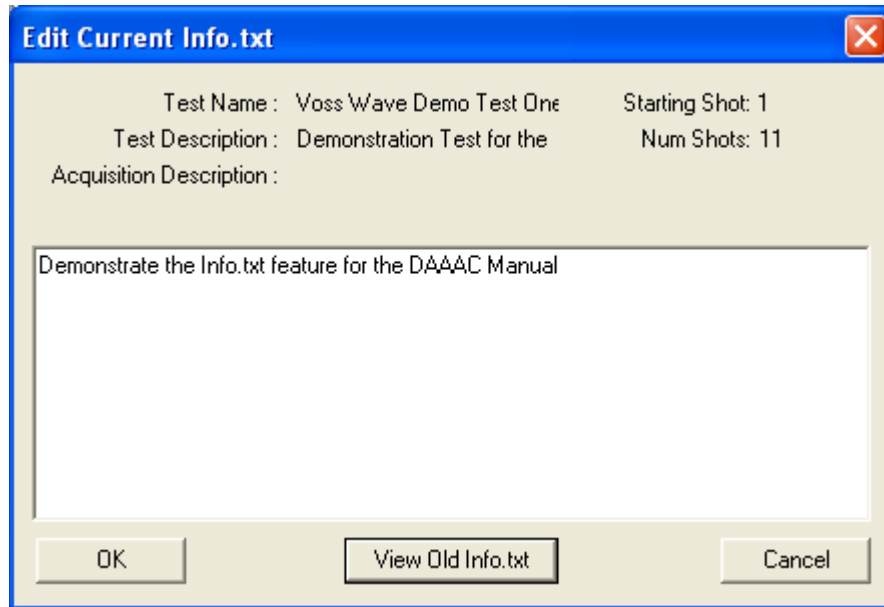
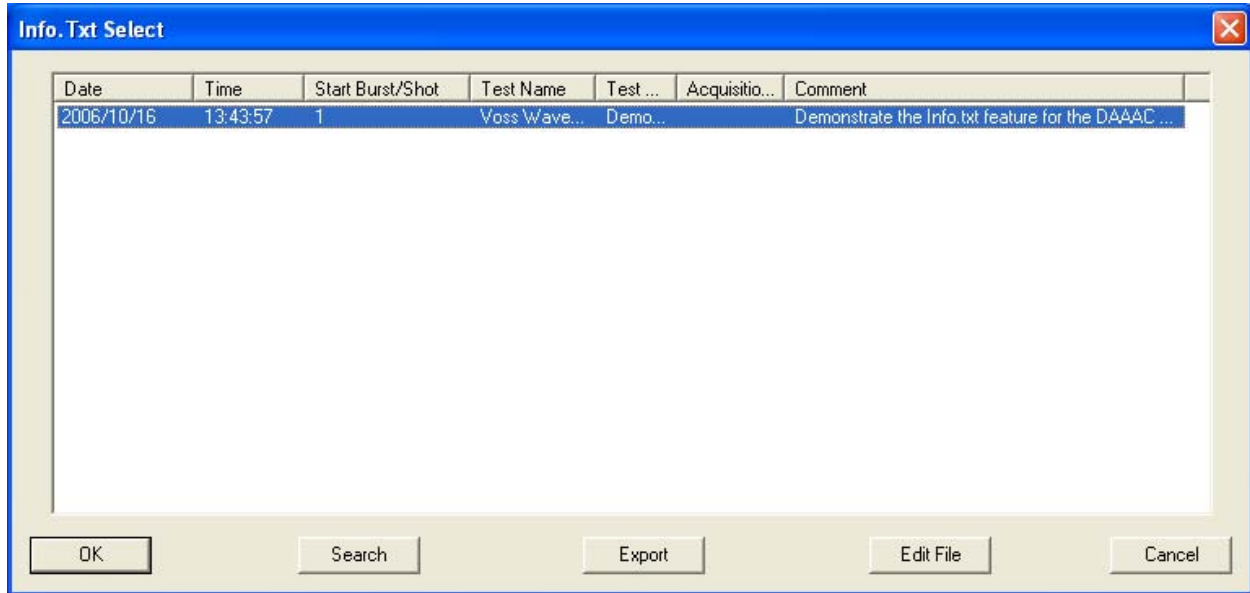

Figure 2-23 - Edit Info.txt for the Current Test
Figure 2-24 - View Other Test Entries
- , then click View Old Info.txt of Figure 2-23 to open the dialog of Figure 2-24.
- , then click View Old Info.txt of Figure 2-23 to open the dialog of Figure 2-24. Finally, click Search to open the Figure 2-25 dialog.